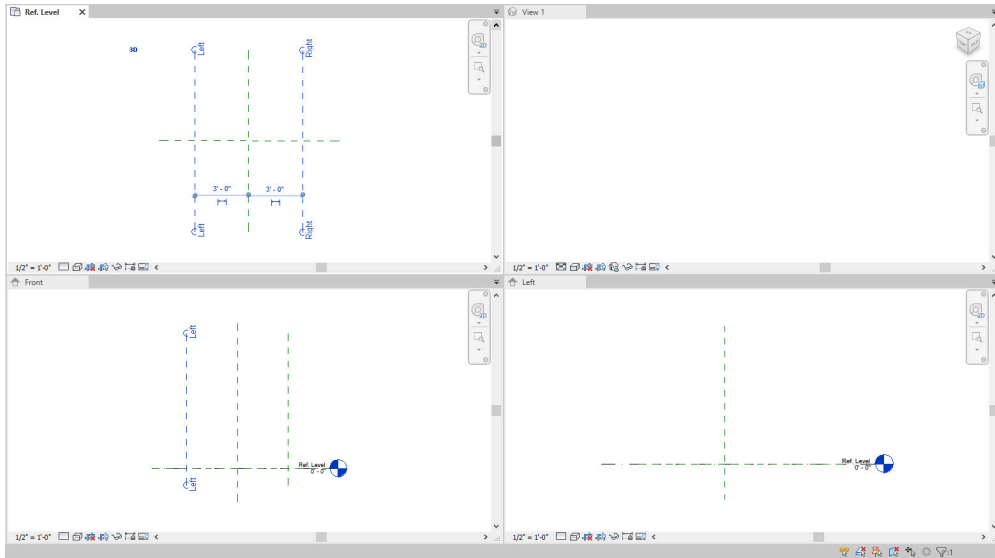

Figure 5.2 Vertical reference planes created and labeled
5. Use the witness lines to change the distance to the center reference plane to 3’0” as shown in Figure 5.2